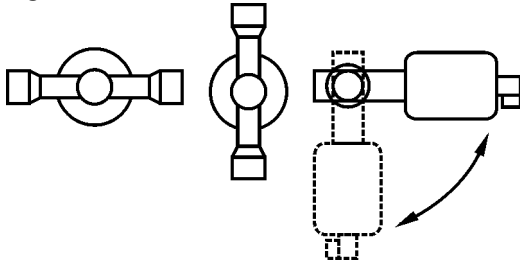

Fig. 2
- It is also recommended to install a check valve (2) on main hot gas pipe going to condenser after branch line into the valve (1) (see Fig. 2).